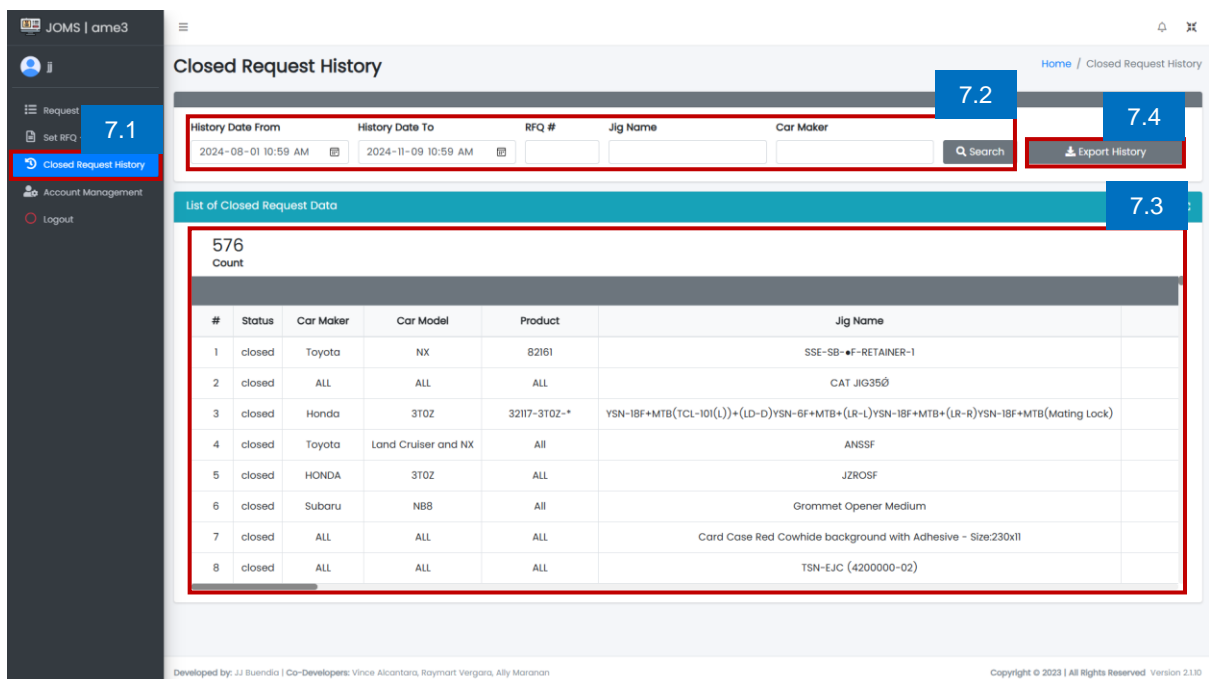

Figure 20. AME3 Closed Request History Page
7.1 Click Closed Request History. (See Figure 20)
7.2 Click the History Date From and History Date To (or RFQ No., Jig Name, Car Maker) in order to filter the table, then click Search. (See Figure 20)
7.3 Viewer of all closed data request by date. Also shows the total count of displayed data. (See Figure 20)
7.4 Click Export History to download the closed request data. (See Figure 20)